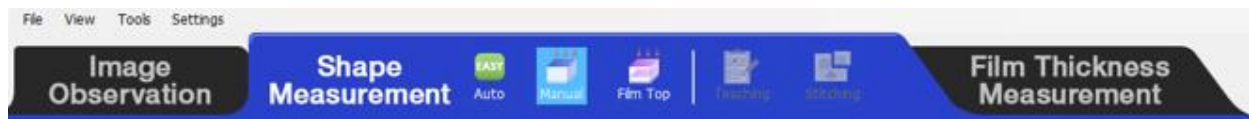
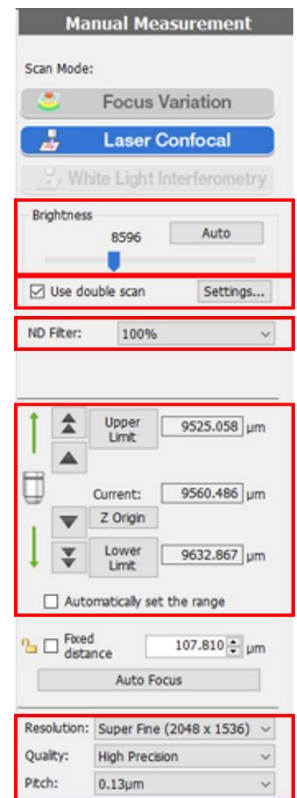

Figure 3: Control bar showing the 3 main scanning options.
Figure 4: Scanning control panel.
1. Select the Auto (Easy) shape measurement (*fig. 3*). Once the desired zoom is set using the objective lens bring the surface of your material in focus by adjusting the stage height.
3. As shown in *Figure 4*, the user can select between optical and laser scan modes and it is always best to try both the methods to determine what works best in your case. (e.g.: Sometimes for materials that are transparent or white, the laser confocal works the best)
1. Select the preferred scanning mode (*fig. 3*). Depending on the selection the following steps may or may not apply. See *fig. 4*.
3. Select the Teaching shape measurement (fig. 3). Now, more options are shown in the space below the navigation image.
3. Select the Stitching shape measurement (fig. 3). More options are shown in the space below the navigation image (fig. 7a).